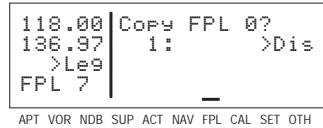

Figure 4-23
- Press **ENT** to clear the flight plan (figure 4-23).
- Select a numbered flight plan page which does not contain any waypoints (figure 4-23). If none exist, use the procedure described in section 4.1.6, "Deleting Flight Plans," to clear a flight plan which is no longer required.